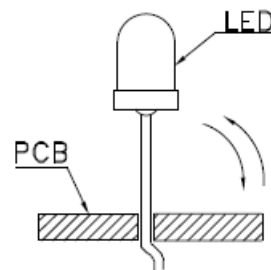

Fig. 8
5. Do not bend the leads more than twice(Fig.8)